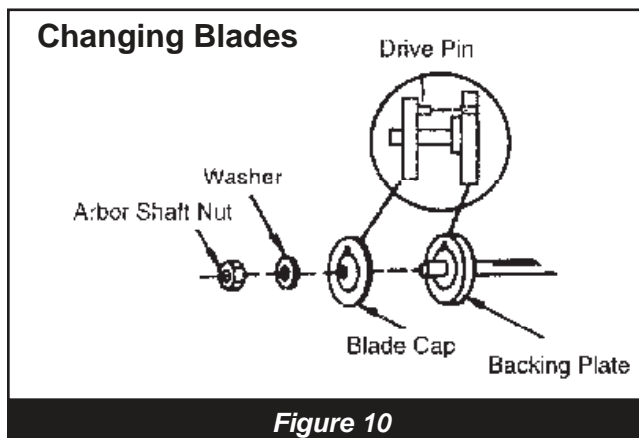

Figure 10
- The backing plate and blade cap (*Figure 10*) should be the same diameter, do not use if they are different diameters. For abrasive blades and for all steel centered diamond blades, the backing plate and blade cap must be at least 1/4 the diameter of the blade.